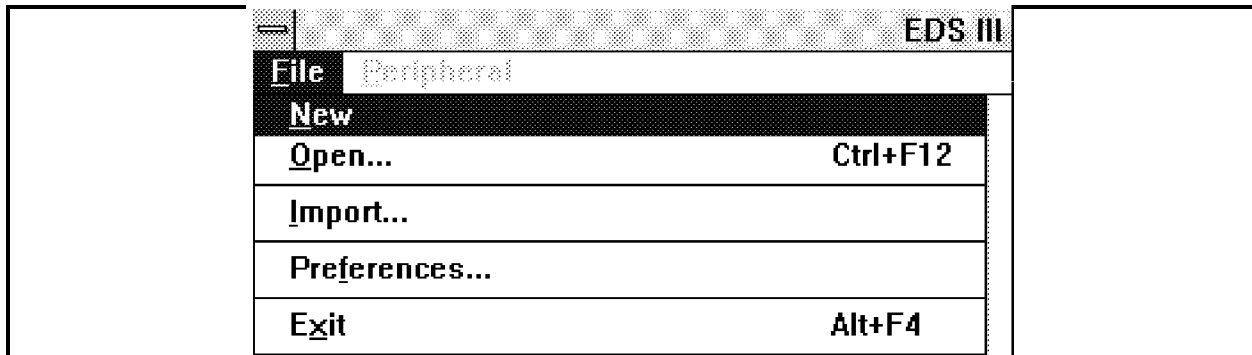

Figure 3-3
2. Click on the "New" menu item in the drop-down menu (see Figure 3-3).